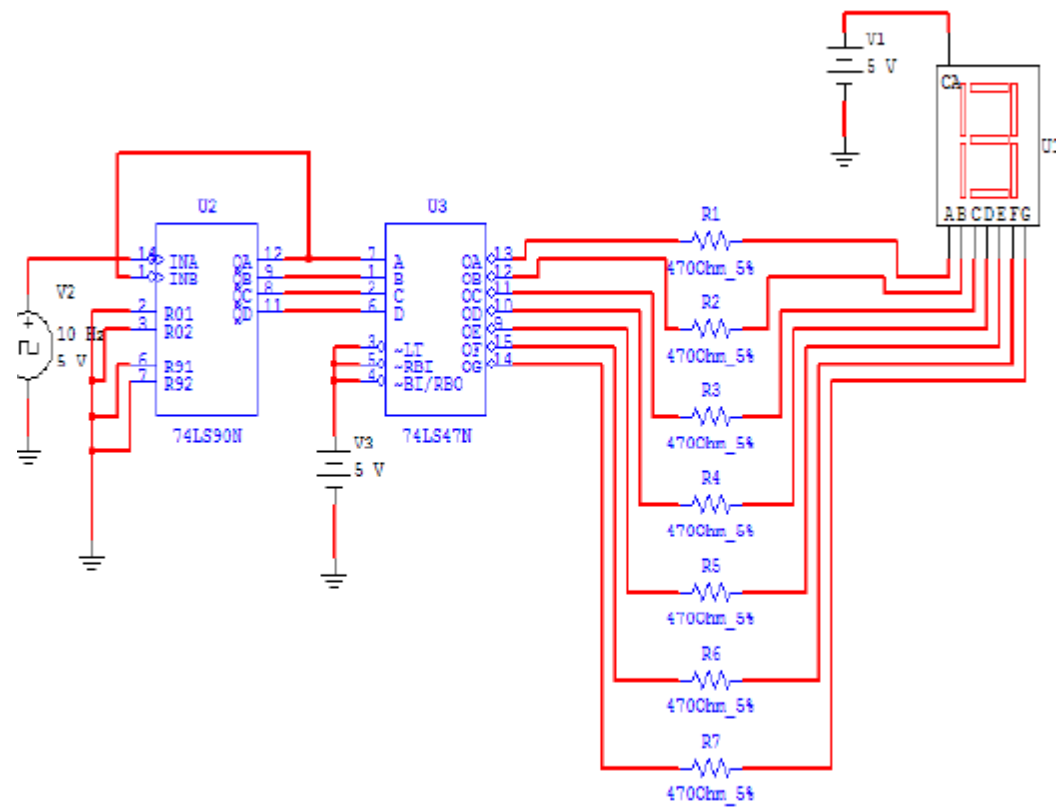

Fig.14 BCD counter with 7-segment display
- Connect the circuit shown in Fig.14.